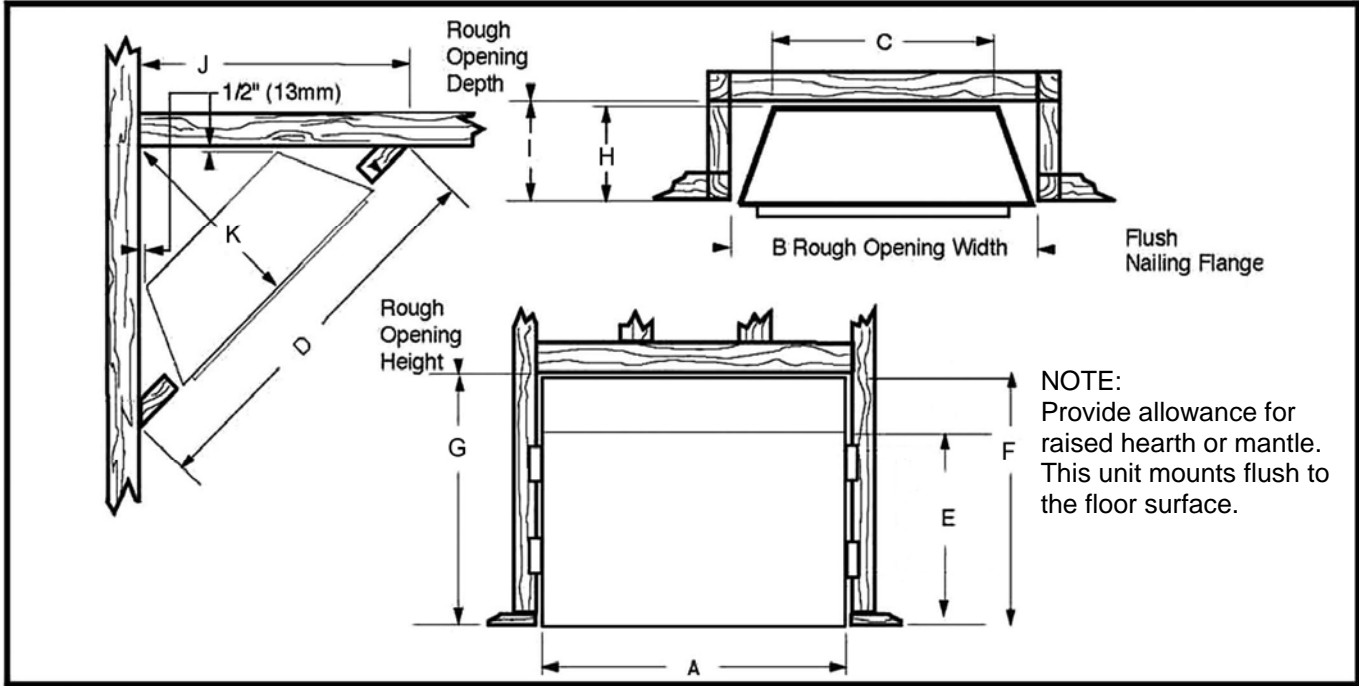

Fig. 1 FIREPLACE SPECIFICATIONS AND FRAMING DIMENSIONS
1. Choose a fireplace location and frame as shown in fig. 1